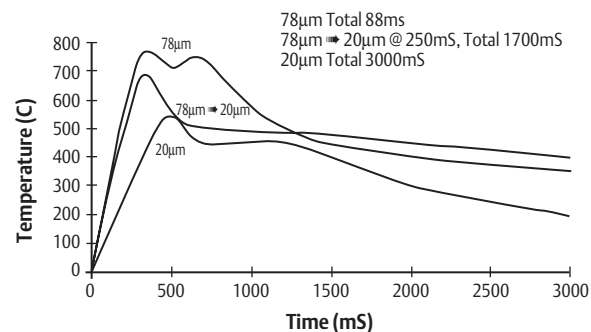

Figure 3. Weld area temperatures at different amplitudes.
In terms of (A), the average heating rate of the polymer is proportional to the amplitude squared. It is possible, therefore, to control the temperature (similar to controlling the barrel temperature in an injection molding machine) by controlling the amplitude. Actual temperatures are seen below at different amplitudes (Figure 3).